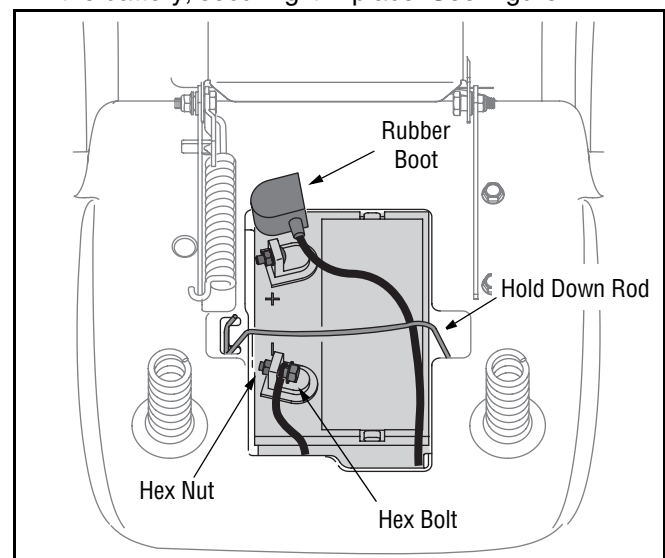

Figure 1
- Make certain the hold-down rod is in position over the battery, securing it in place. See Figure 1.